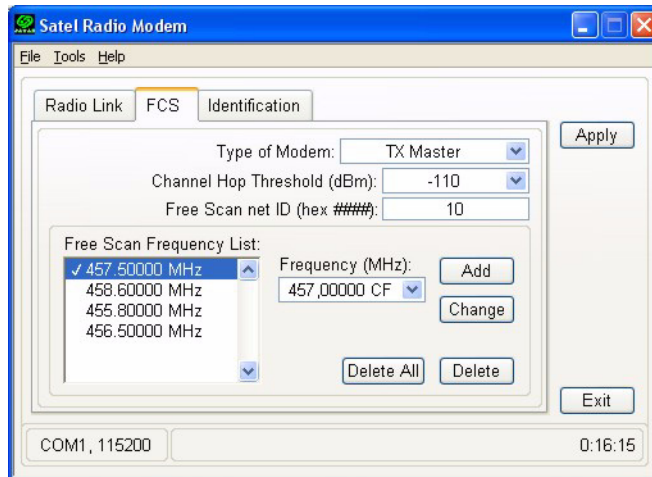

Figure 2-35. Satel FCS Tab
2. In the **FCS** tab (Figure 2-35) make the following settings:
2. In the **FCS** tab (Figure 2-35 on page 74) make the following settings: